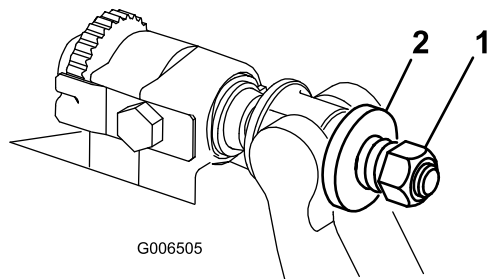

Figure 36
3. Tighten spring tension nut until spring is collapsed, then back off 1/2 turn (Figure 36).